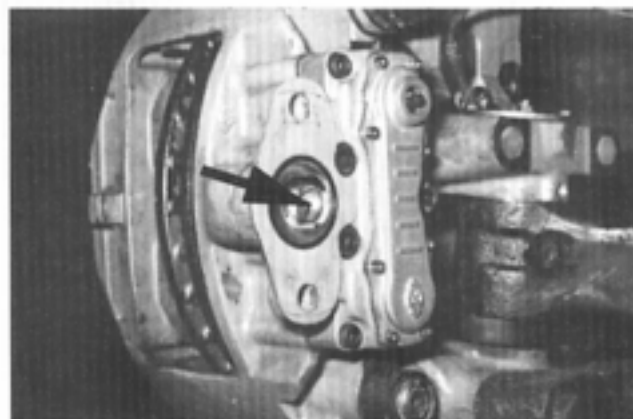

Fig. 23
Before installing the new brake chamber, the cup in the lever (19) has to be greased with multipurpose grease, e.g. "RENOLIT HLT 2", (fig.23).